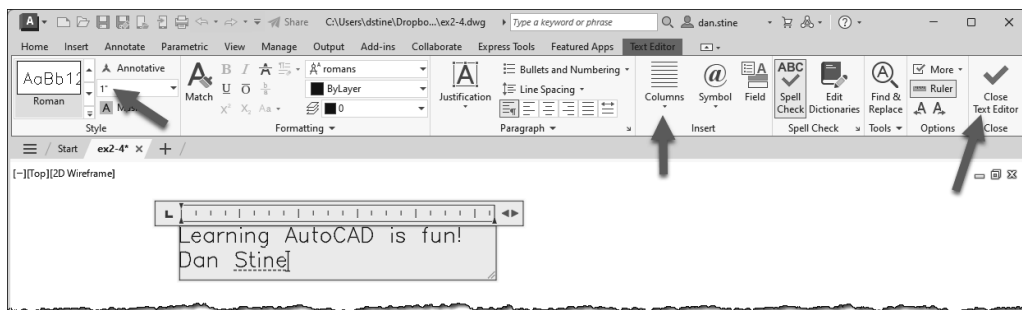

FIGURE 2-4.3 Mtext; text typed in text editor window; Text Formatting ribbon displayed
6. In the *Mtext Editor* you will type the following text (Figure 2-4.3):
7. When finished typing text, click the **Close Text Editor** button on the *Ribbon* shown in Figure 2-4.3 above; notice the *Ribbon* changes while in text edit mode.
TIP: With the Mtext Editor open (Figure 2-4.3), you can Copy/Paste text in from other programs such as MS Word. Most of the formatting (e.g., font, bold, underline, etc.) will be preserved.